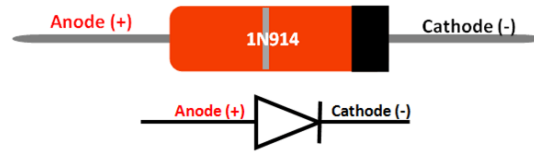

Figure 3: 1N914 polarity and orientation. Image credit: <https://components101.com/diodes/1n914-datasheet-pinout-equivalent>
- (f) Do the same, but now use a standard silicon diode (1N914) that is part of your circuit pack. need help orienting it properly? Check out the data sheet here <https://www.vishay.com/docs/85622/1n914.pdf> or see below Figure 3. Note the black band matches the cathode.